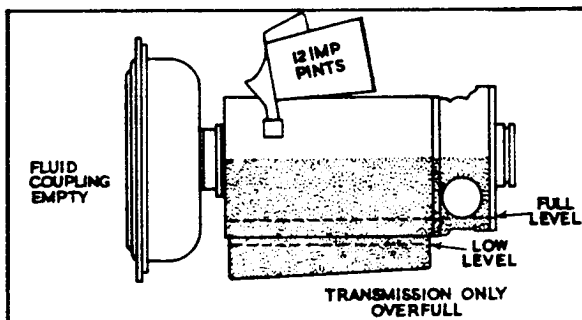

FIG. 1. FIRST FILL-IN.
- (1) Remove the dipstick, and through the dipstick filling orifice, add 12 Imp. pints (14 U.S. pints) of a recommended gearbox fluid. See Fig.1.